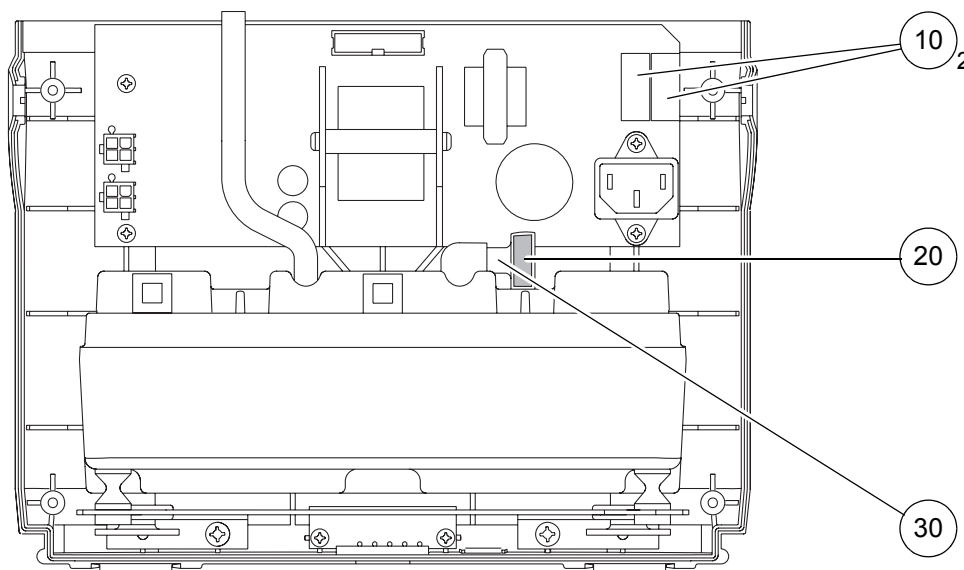

Figure 37 - Replacing the Mains/Power Fuses and Compressor Air Inlet Filter
- 31.2 Un-clip the plastic cover on one of the fuseholders, and remove the fuse (Fig 37, Item 10).
- 31.3 Install the new fuse (Fig 37, Item 10) into the fuseholder, and clip the plastic cover onto the fuseholder.
- 31.4 Repeat for the second fuse (Fig 37, Item 10).
- 32.2 Using a pair of tweezers, remove the air inlet filter (Fig 37, Item 20) from the air inlet filter holder (Fig 37, Item 30).
- 32.3 Push the new air inlet filter (Fig 37, Item 20) fully into the air inlet filter holder.